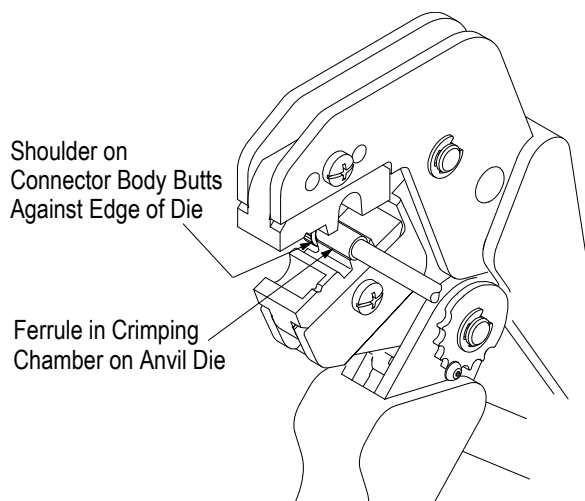

Figure 3
##### 4.2. Ferrule (Figure 3)
3. Place the ferrule in the ferrule crimping chamber of the anvil die so that the shoulder on the connector body butts against the edge of the die. See Figure 3.